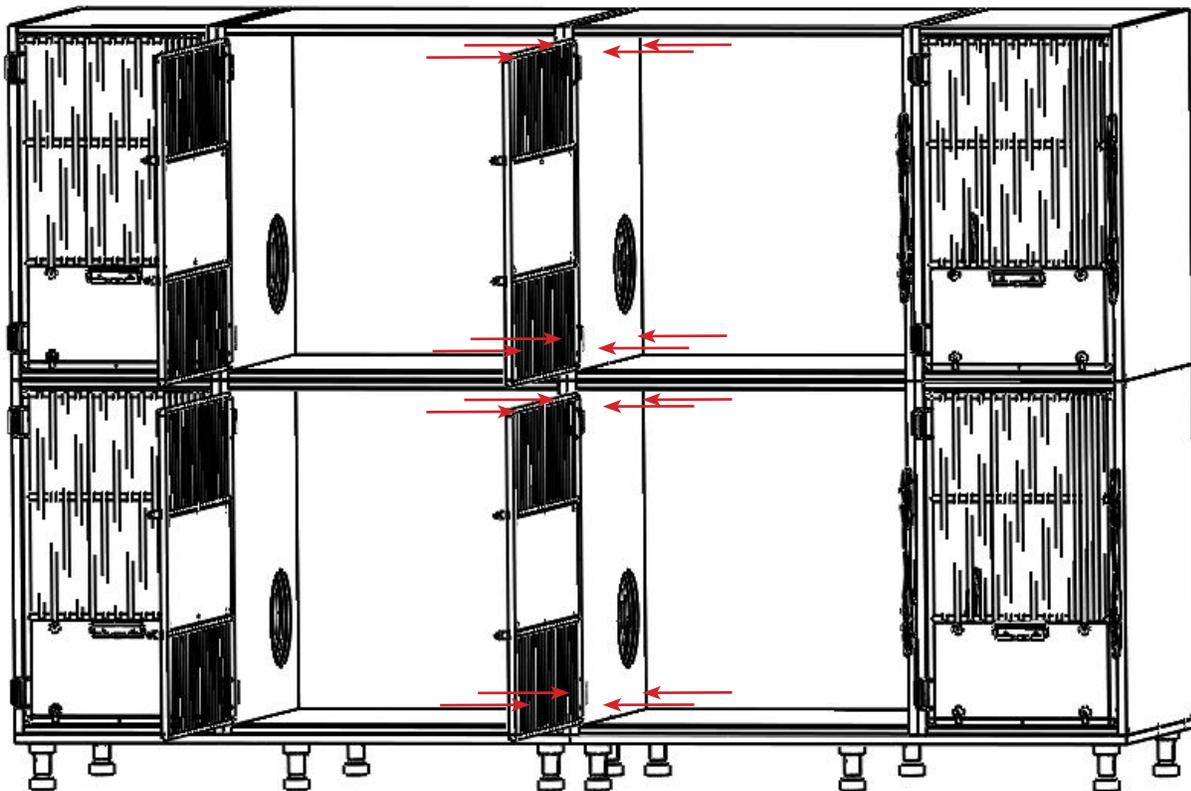

FIGURE 2.29 - Feline Comfort Suite, 4 Unit (Configurations Vary)
STEP 3: Connect the two units by inserting barrel nuts and #3 screws into each pre-drilled holes in the side panel, secure both units on both rows together. See FIGURE 2.29